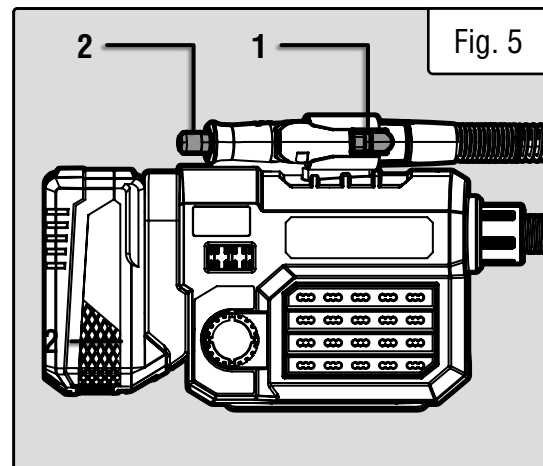

Fig. 5
2. Push and hold the spindle lock (Fig. 5 - 1) in the LOCKED position and rotate the collet nut (Fig. 5 - 2) until the lock engages.